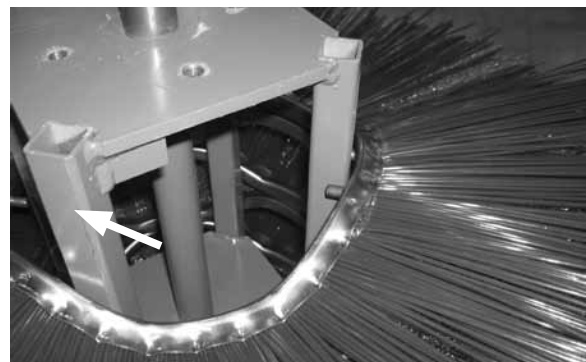

Figure 32
- Install a second section with drive pins rotated 180° from those on the first section (Figure 32).